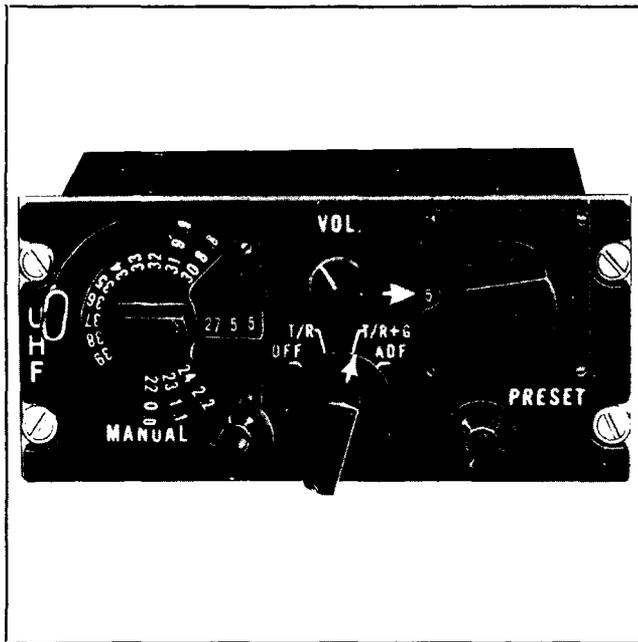

Figure 5-3. Pilots' Control Panel (C-1904/ARC-27)
- See figure 5-3. The pilots' control panel is connected to the main control panel. The CHANNEL selector switch, on the pilots' control panel, permits individual